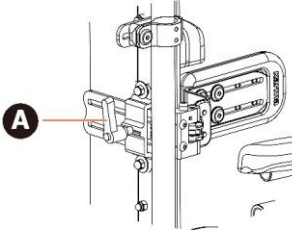

Figure 9.23
- To adjust the width, please loosen the lateral trunk support adjustable lever **(A)**, then adjust the support left and right to the suitable width. Last, tighten the lateral trunk support adjustable lever **(A)** (See Figure 9.23)